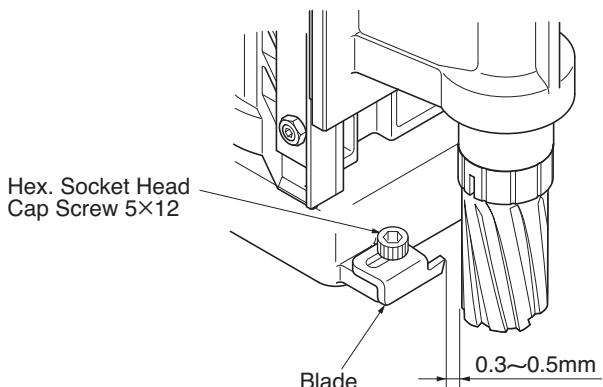

Fig. 38
(1) Mount Blade Base. (Fig.38)